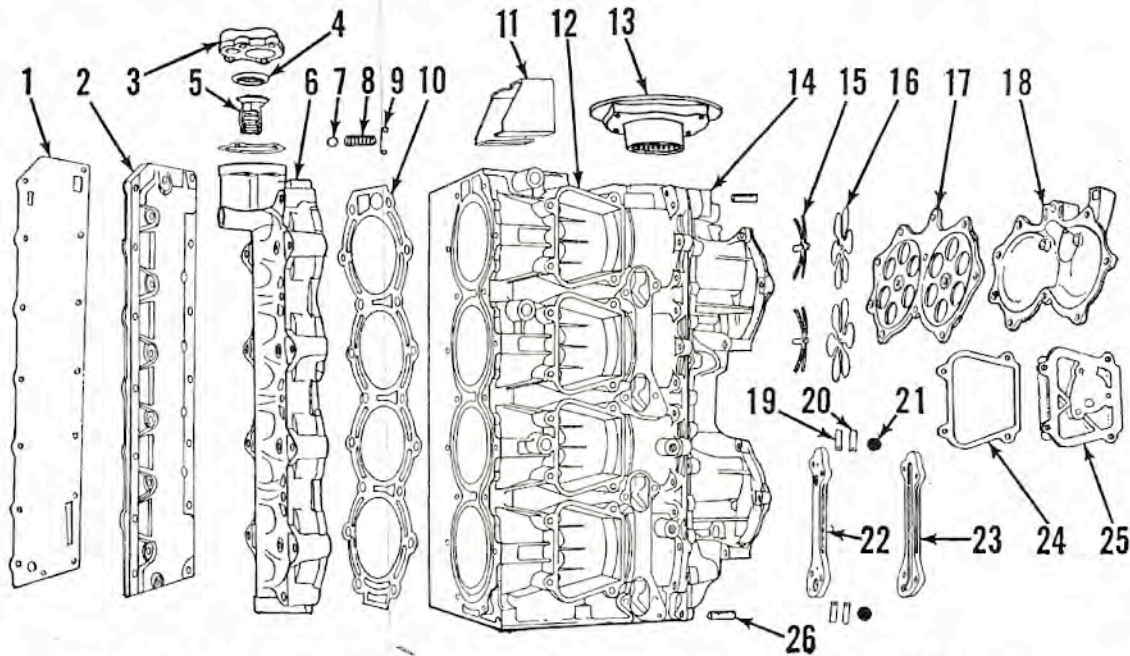

Fig. WB83—Exploded view of powerhead cylinder, crankcase and associated parts used on Tiger Shark models.
THERMOSTAT. Motors are equipped with a cooling system thermostat which is mounted in the cylinder head and used to control the coolant temperature. To remove the thermostat, remove the cover (3—Fig. WB83) and withdraw the thermostat (5).
Crankshaft and pistons can be removed after removing upper bearing cage (13—Fig. WB83); then removing crankcase front half (14). Exhaust covers (1 & 2), transfer port covers (25), crankcase drain covers (23) and reed plates (22) should be removed for cleaning and inspection. Pry lugs are provided adjacent to retaining dowels (26), for removing crankcase front half.
Inspect the thermostat check valve ball (7—Fig. WB83) and spring (8), located in lower surface of cylinder head. Inspect also the crankcase drain reed petals (20) and reed plates (22), for wear or damage.